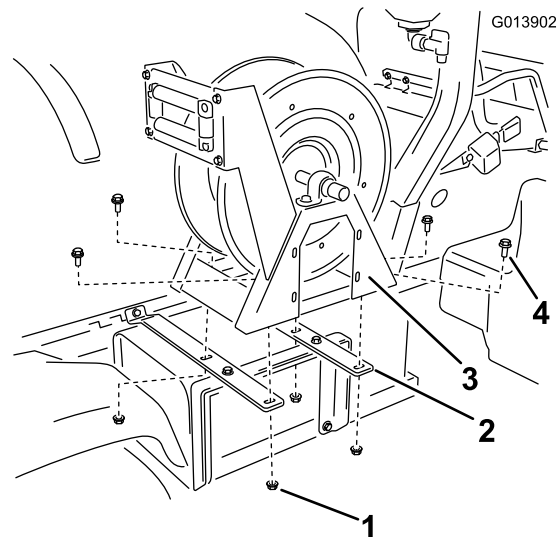

Figure 10
5. Install the hose reel assembly onto the hose reel straps (Figure 10) using 4 flange-head bolts (3/8 x 1 inch) and 4 flange nuts (3/8 inch).